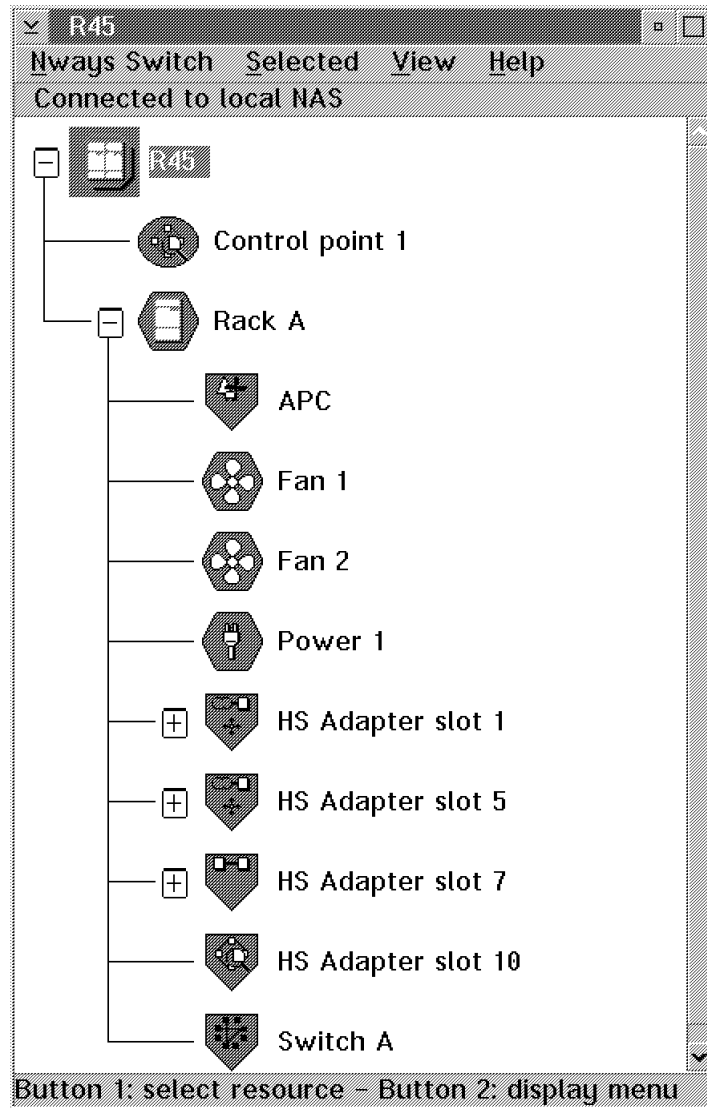

Figure 4-1. Nways Switch Resource Control Window
- From the window displayed using the icon/option get the **Nways Switch Resource Control** window with all the resource icon displayed (see Figure 4-1).
- From the window displayed using the icon/option get the **Nways Switch Resource Control** window with all the resource icon displayed (see Figure 4-1 on page 4-3).